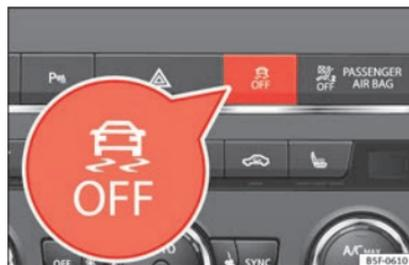

Fig. 193 Centre console: Button for switching on/off the ESC and ASR
- Press the button  » Fig. 193 for approximately 1 second to switch off the ASR function.
- Press the button  » Fig. 193 for approximately 3 seconds to switch off the Electronic Stability programme (ESC), including the ASR function.
- The ASR and ESC function are reconnected by pressing the button  » Fig. 193.